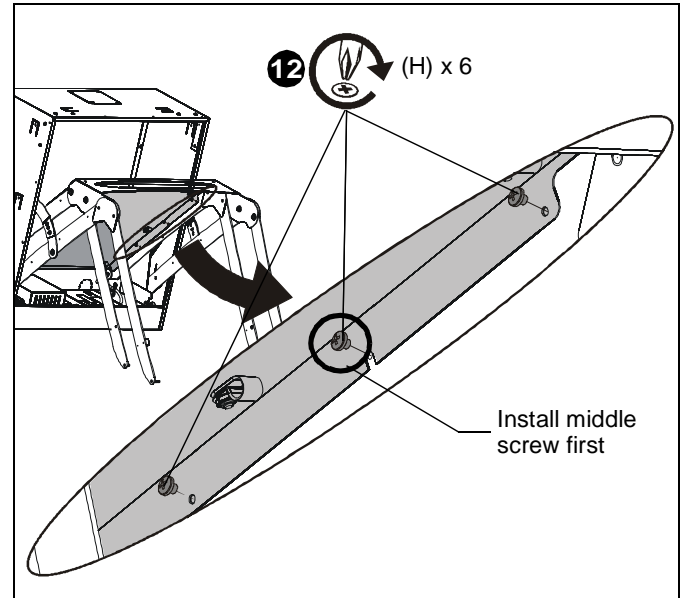

Figure 12
12. Replace sway panel removed in Step 6 of **Removing Lift Weldment Assembly** section and fasten with six 10-24 x 3/16" Phillips head screws (H). (See Figure 12)